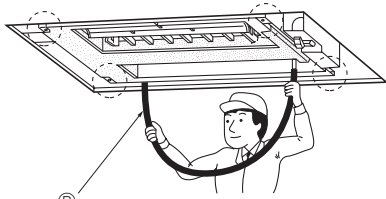

Fig. 2-8
4. Check that the four corners are all level, using a spirit level or clear plastic tubing with water in it. (Fig. 2-8)